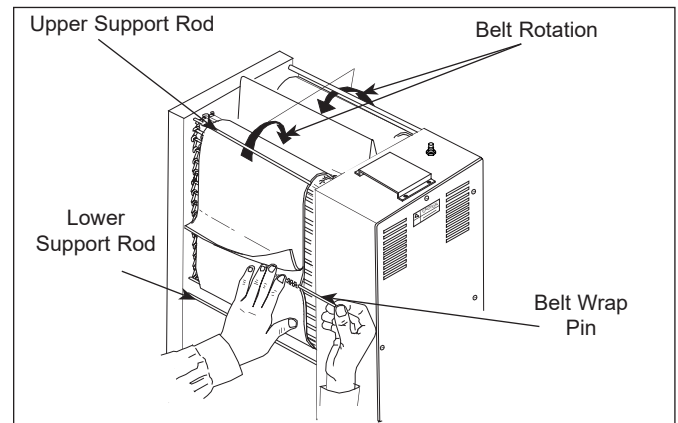

Figure 12. Installing Belt Wrap
6. Install the new Belt Wrap(s) around the Conveyor Belt Chains inside the yellow rods with the “zipper” flap exposed and hanging down (Figures 12 & 13).